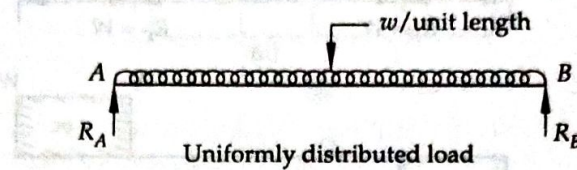

Fig. 40
2. Uniformly distributed load: A load which is spread uniformly over the entire span or small portion of the beam is known as uniformly distributed load (U.D.L.) as shown in Fig. 40.